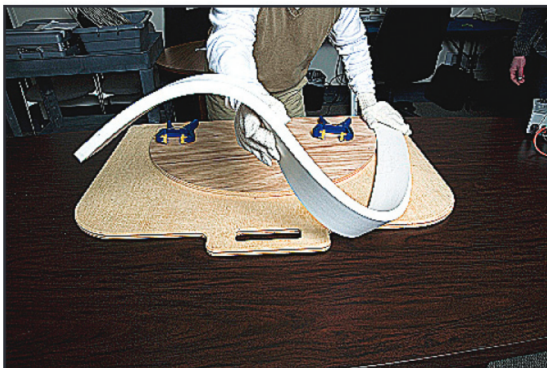

Figure 15
1. Remove the material from the blankets, place one end of the Heated Material on the edge of the form and clamp it to keep it from moving (Fig. 15)